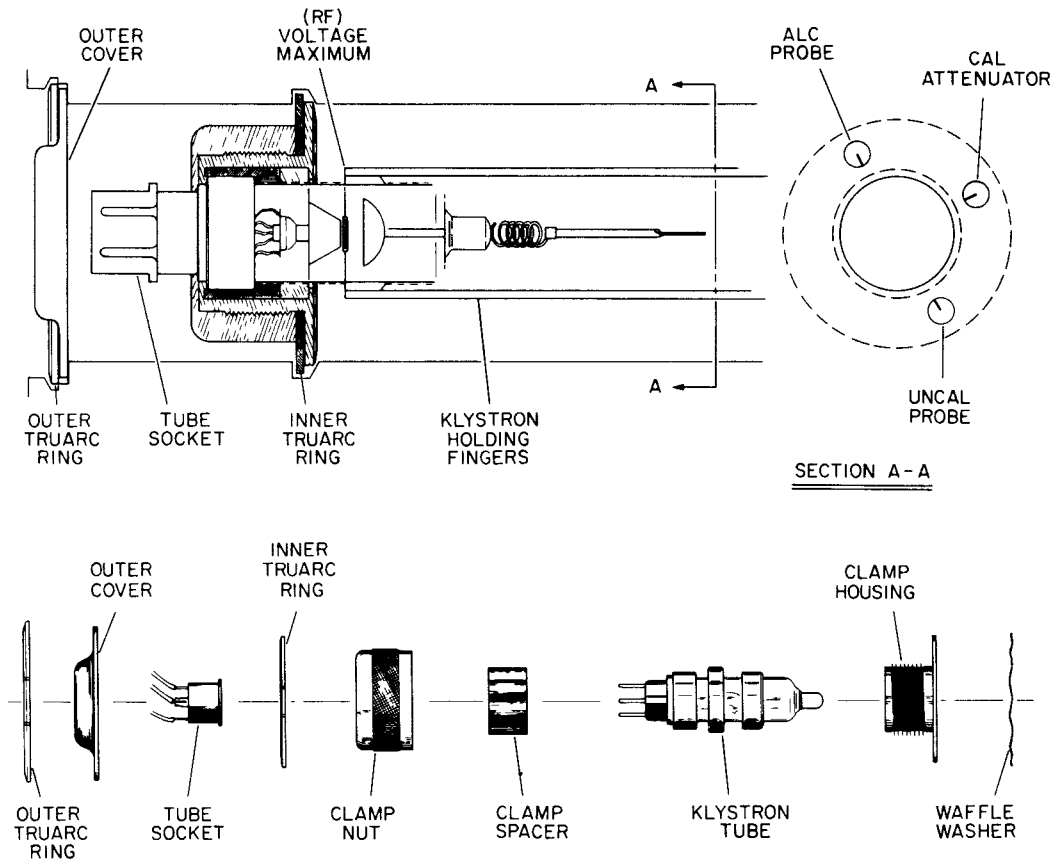

Figure 5-9. Klystron Cavity Assembly, Cutaway View
c. Using truarc pliers which are available in a repair kit, HP Stock No. 08614-800, remove the outer truarc ring from the outer cover of the klystron cavity (see Figure 5-9).
f. Unscrew clamp nut, lift out clamp spacer, and remove klystron (see Figure 5-9).